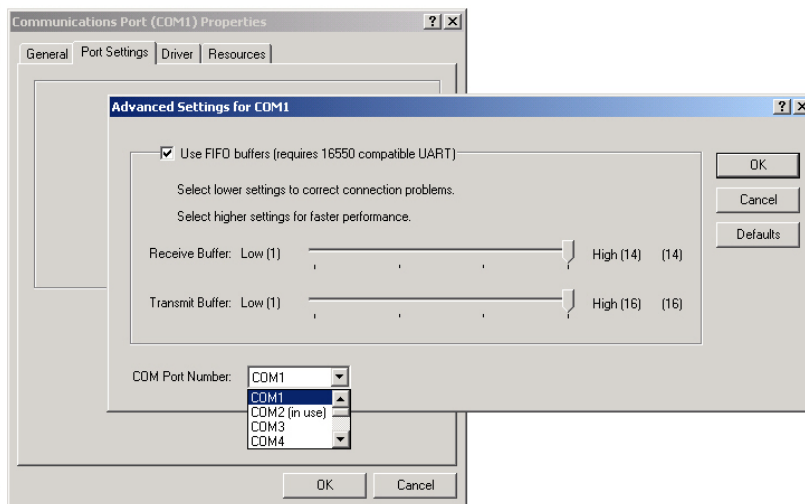

figure 4
- 2) Choose “Advanced” in “Communications Port(COM1) Properties”. Revise the “COM Port Number” in “Advanced Settings for COM1”(as showed in Figure 4).